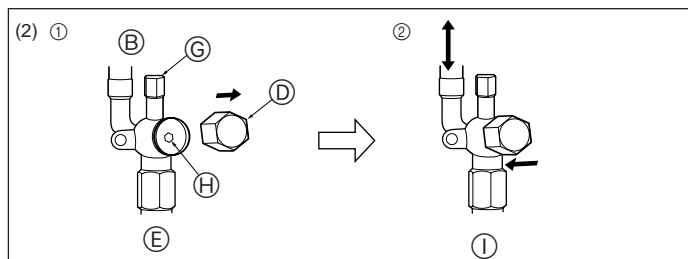

Fig. 4-7
- ① Remove the cap, pull the handle toward you and rotate 1/4 turn in a counterclockwise direction to open.
- ② Make sure that the stop valve is open completely, push in the handle and rotate the cap back to its original position.
(2) Liquid side (Fig. 4-7)
- ① Remove the cap and turn the valve rod counterclockwise as far as it will go with the use of a 4 mm [5/32 inch] hexagonal wrench. Stop turning when it hits the stopper. (ø6.35 [1/4 inch]: Approximately 4.5 revolutions) (ø9.52 [3/8 inch]: Approximately 10 revolutions)